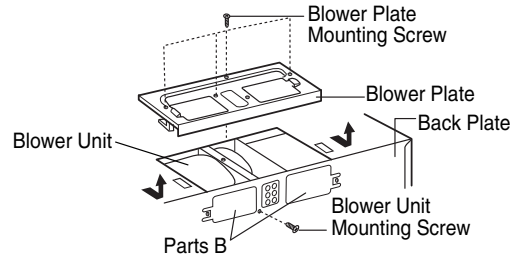

Figure 12
1. Remove one blower unit mounting screw and one or several blower plate mounting screw(s). Remove the blower plate from cabinet. See Figure 12.